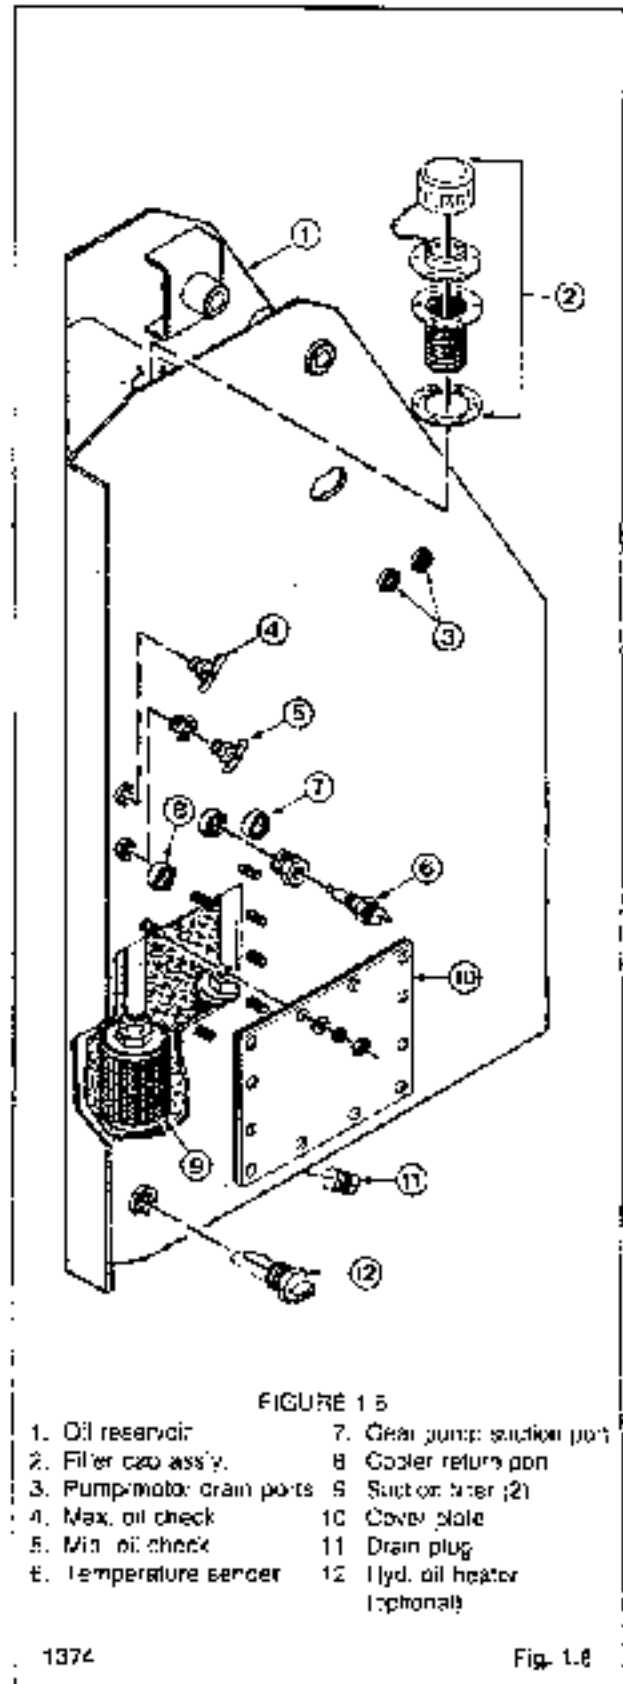

FIGURE 1.5
3. Three types of gland sealing arrangements have been used on the boom lift and bucket tilt cylinders (fig. 1.5.j).
STYLE 1 — Install a new gland O-ring and back-up washer. Ensure the back-up washer is on the rod end side (low pressure side) of the O-ring (fig. 1.5.j).
STYLE 2 — Install a new gland O-ring (fig. 1.5.j).
STYLE 3 — Install two new gland O-rings and back-up washer. Ensure the back up washer is on the rod end side (low pressure side) of the O-ring (fig. 1.5.j).
5. Coat the cylinder rod with light oil and assemble the gland assembly (fig. 1.5.k) on the rod.
6. Install a new O-ring on the cylinder rod (fig. 1.5.l).
7. Install new wear rings and piston seal on the two piece piston assembly (fig. 1.5.m).
The hydraulic oil filter (fig. 1.5) is located on the left hand side of the machine inside the rear door.